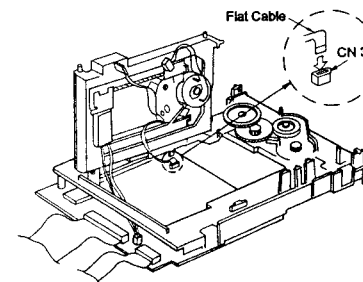

Figure 27
- (8) Connect the flat cable to CN 3 as shown in Figure 27.